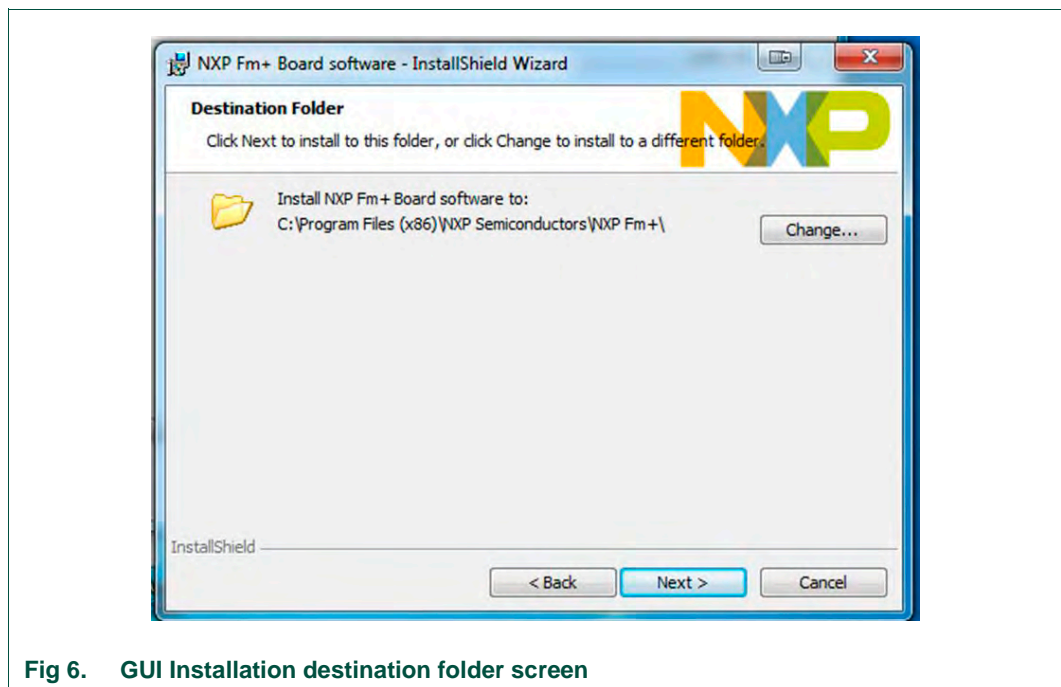

Fig 6. GUI Installation destination folder screen
6. Click next on the destination folder screen, Fig 6.